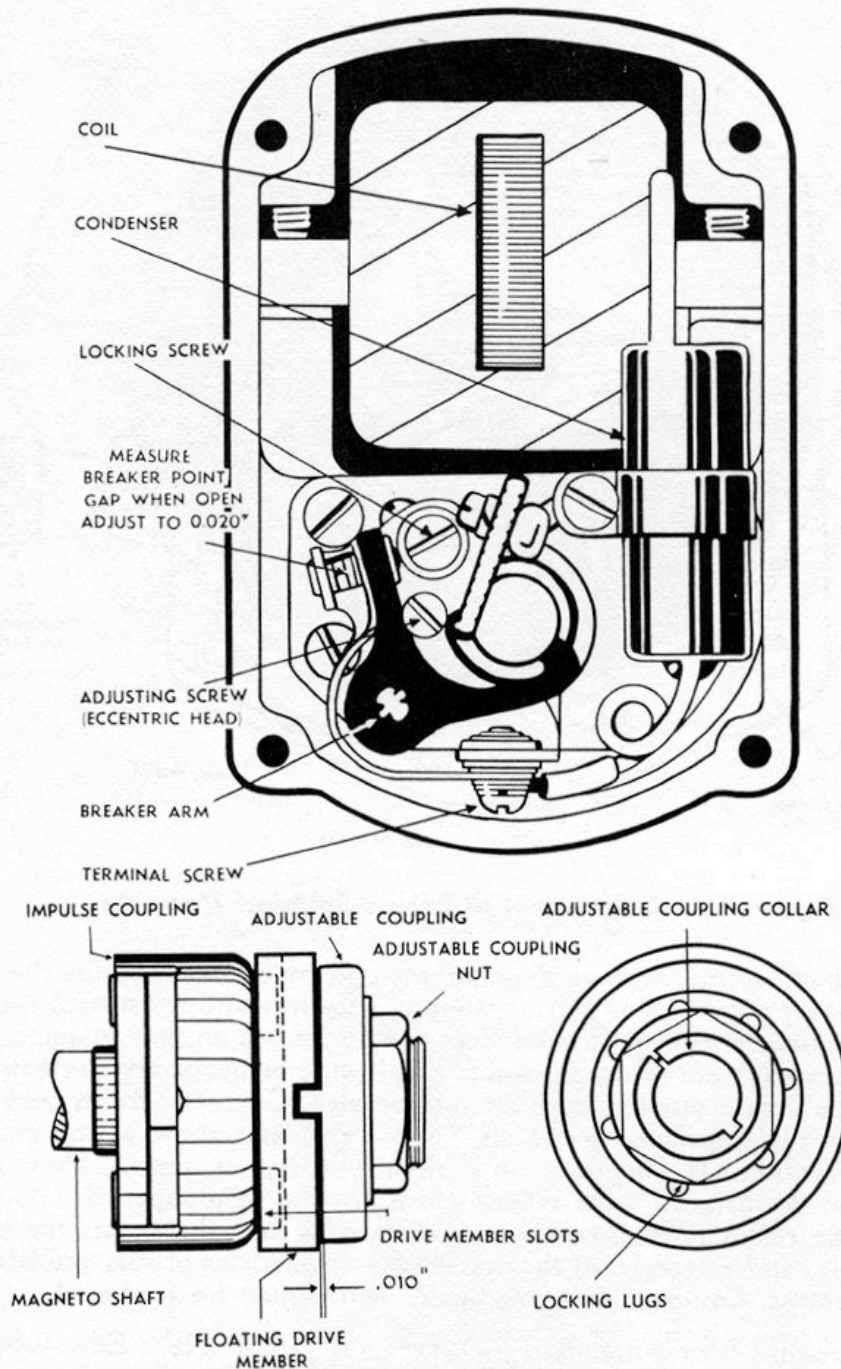

Figure 12. Adjustment of Fairbanks-Morse Magneto
7. Adjust Fairbanks-Morse magneto contacts for a gap of .020"; Edison-Splitdorf, for a gap of .014"—.016". (See figures 12 and 13.) If the foregoing procedure does not produce a good spark, the magneto should be taken to an authorized service station for further examination.
- Holding magneto drive coupling to prevent its turning, insert a .010" feeler gage between the floating drive member and the coupling flange, (see figure 12) then tighten lock nut finger tight.